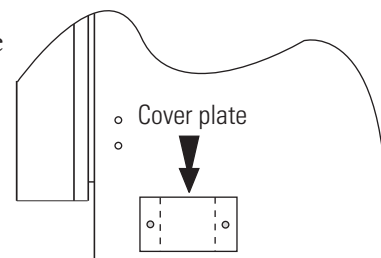

Figure 5-7. Cover Plate Location
14. Locate the small cover plate on the side of the unit. Refer to Figure 5-7.